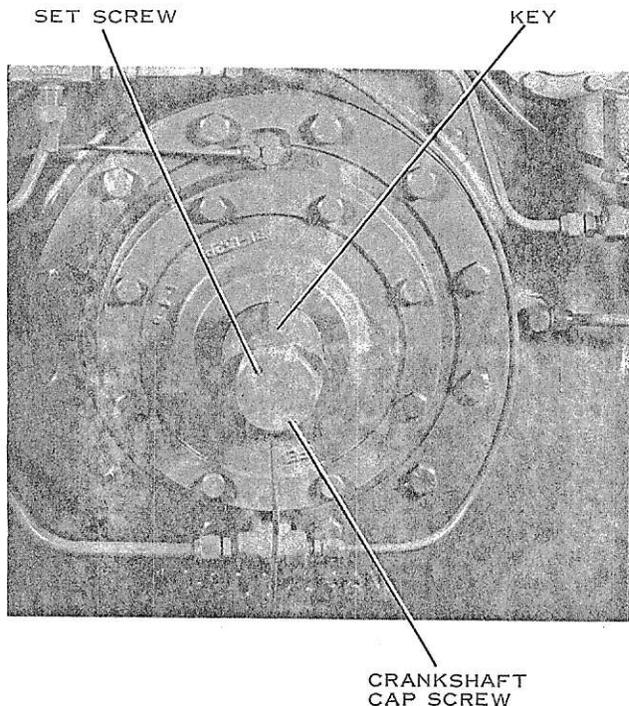

FIG. 7— Compressor - Seal End
- With the compressor flywheel, its key, the crankshaft cap screw and its washer in place, tighten the cap screw firmly. Lock it in position by tightening the hollow headless set screw located in the cap screw head. Note and mark the position of the flywheel key. (See Fig. 7.)